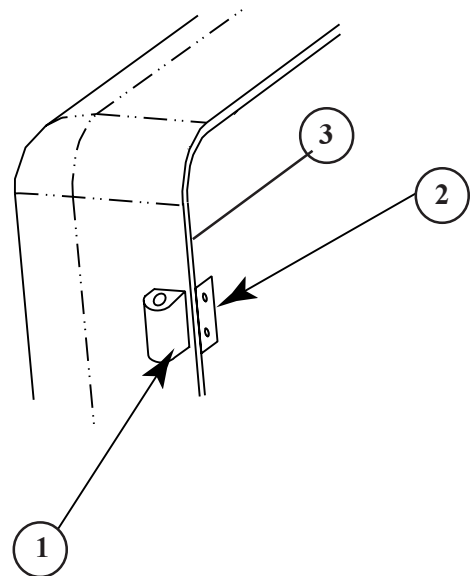

Figure 2
3) Mount the bottom half of the hinge(Figure 2, Item 1) to the hinge mounting bracket(Figure 2, Item 2) so that the plastic side guard is clamped between them.(Figure 2, Item 3)